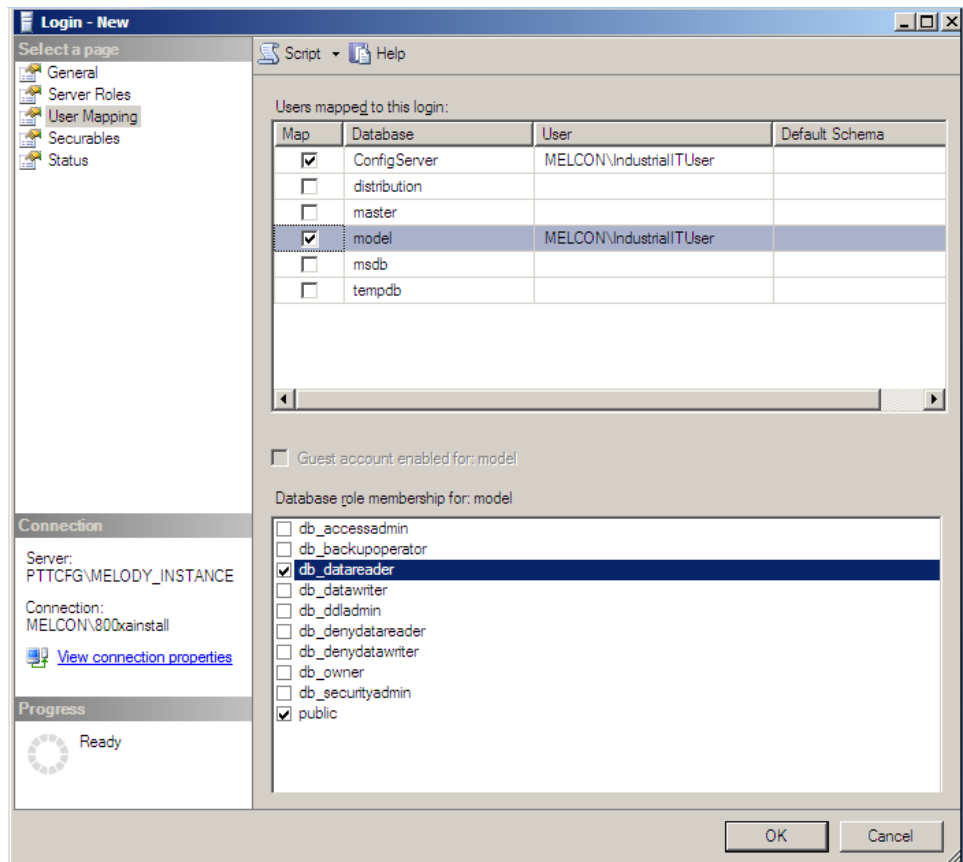

Figure 39. Selecting **db_datareader** for the ConfigServer and Model Databases
6. On the User Mapping page, select the **db_datareader** check box for the ConfigServer and model databases (Figure 39).